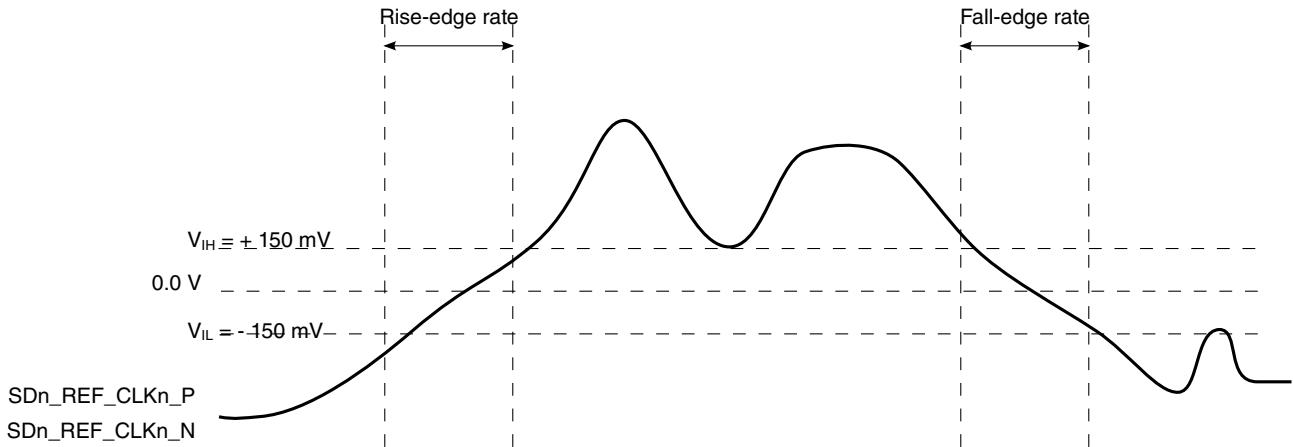

Figure 83. Differential measurement points for rise and fall time
9. Measured from -150 mV to +150 mV on the differential waveform (derived from SD _n _REF_CLK _n _P minus SD _n _REF_CLK _n _N). The signal must be monotonic through the measurement region for rise and fall time. The 300 mV measurement window is centered on the differential zero crossing. See Figure 83 .